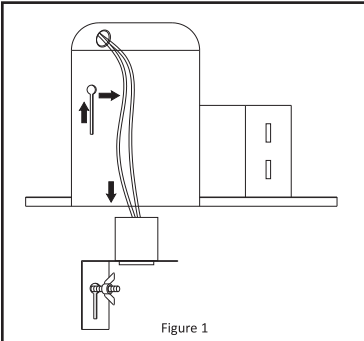
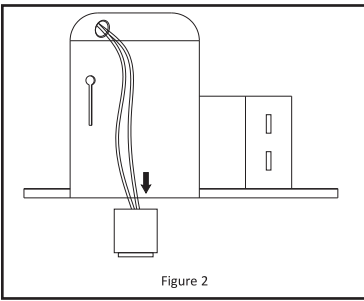

Figure 1
Figure 2
- If applicable, loosen the screws on socket bracket, push the bracket upward to top-most location. Remove existing socket mounting plate from recessed housing, then remove lamp socket from the plate. **See Figure 1 and Figure 2.**